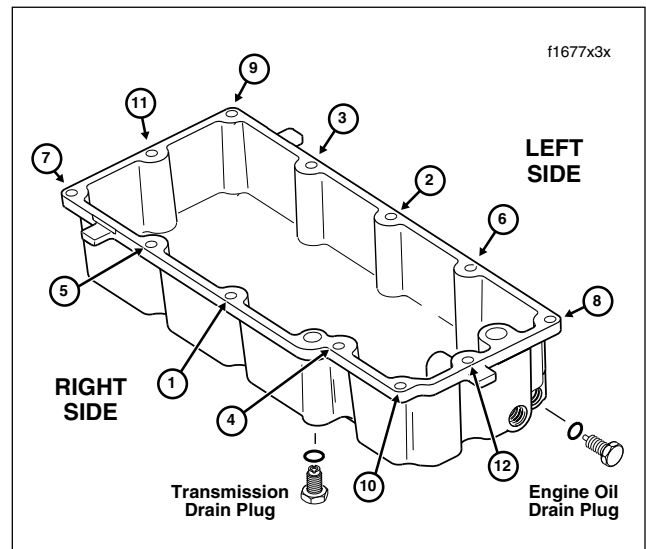

Figure 3-16. Oil Pan Torque Sequence
- c. Locate oil drain plug at front of the oil pan. See Figure 3-16. Remove the plug and allow oil to drain completely.
- d. Locate transmission drain plug on right side of the oil pan. See Figure 3-16. Remove the plug and drain the transmission lubricant into a suitable container.
- e. Alternately loosen and then remove the twelve allen head socket screws to release the oil pan from the transmission housing. Follow the pattern shown in Figure 3-16.
5. Alternately tighten oil pan screws to 84-132 **in-lbs** (9.5-14.9 Nm) following the pattern shown in Figure 3-16.